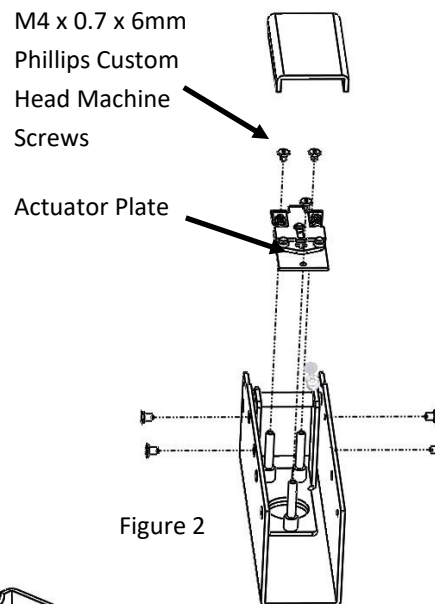

Figure 2
- B. Remove the three M4 x 0.7 x 6mm Phillips Custom Head Machine Screws that hold the Actuator Plate onto the Top Fitting. Note: If replacements screws are needed, M4 x 0.7 x 6mm Pan Phillips Head Screws are an acceptable alternative. (Figure 2)
- E. Reinstall the Actuator Plate making sure the RIM Cylinder Tailpiece mates up with the Hub on the Actuator Plate. Reinstall the three M4 x 0.7 x 6mm Phillips Custom Head Machine Screws to secure the actuator plate. (Figure 2)